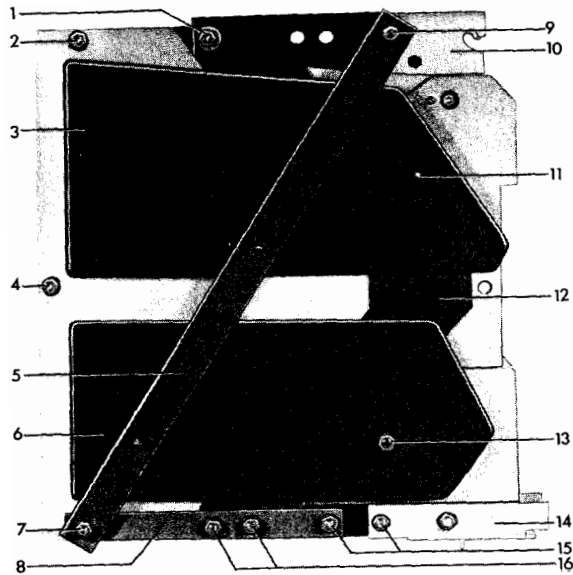
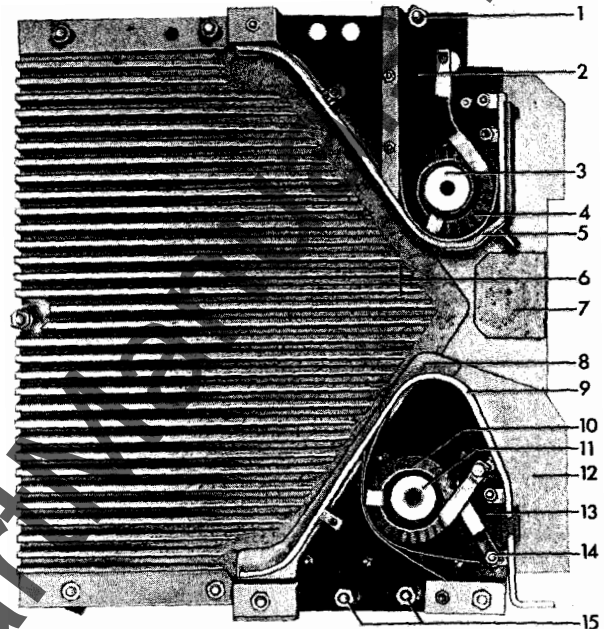
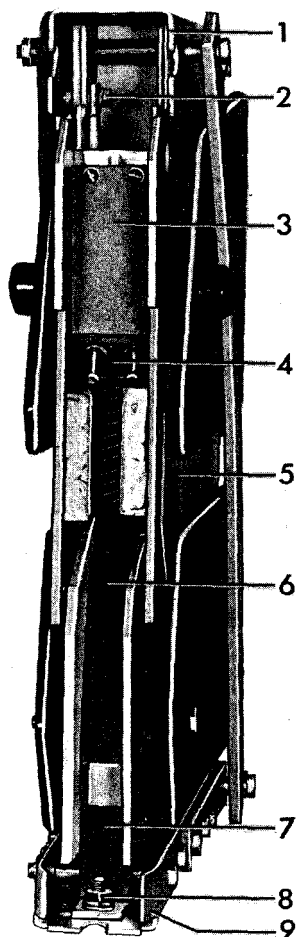

Figure 18. (8039601) Interrupter Assembly
Figure 19. (8039603) Interrupter Assembly with Side Removed
Figure 20. (8039604) Interrupter Assembly
1. Remove the caps and assembly bolts (7, 9, 11, & 13) Figure 18.
2. Remove the side brace (5), and pole pieces (3 & 6).
3. To remove the upper interrupter support (10) remove the assembly bolt (1), and the bolted connection (2) Figure 20 between the upper interrupter support and the blowout coil.
4. Remove the assembly bolt (16) Figure 18 to remove the lower brace (8).
5. Remove the lower interrupter support (14) by removing the assembly bolts (15) and the connection nut (8) Figure 20.
6. At this point, the side shields (5) Figure 20, and the arc runner assemblies (4 & 6) can be removed.
7. Further disassembly of both the upper and lower arc runner assemblies can be done by removing the various screws and assembly bolts (not illustrated) as shown in Figure 19.
8. The arc chute sides (6) Figure 19, can also be separated for inspection after removing assembly bolts (2 & 4) Figure 18.
5. Before bolting the upper supports in place, make certain that the upper arc runner assembly is tight against the arc chute side so that the gap between the throat insulation (7) Figure 19, and the arc chute sides (6) is a minimum.
6. Make certain that the electrical connections (2 & 8) Figure 20 are tight.